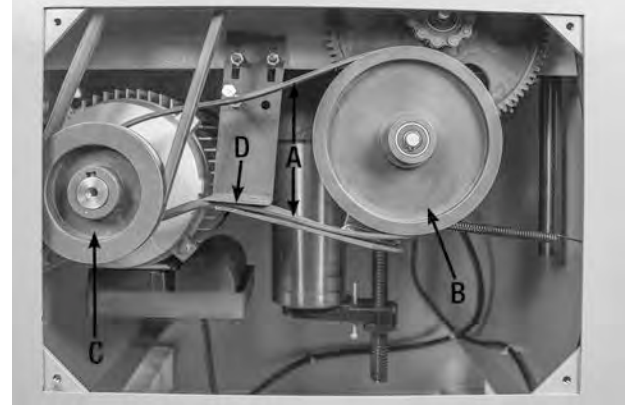

FIGURE 27
8. Remove the planer feed roller drive belt (A) Fig.27 from the feed roller pulley (B) and the motor pulley (C).